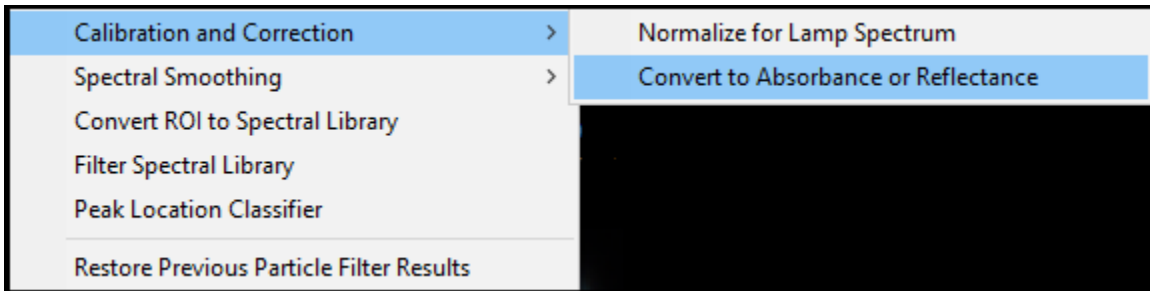
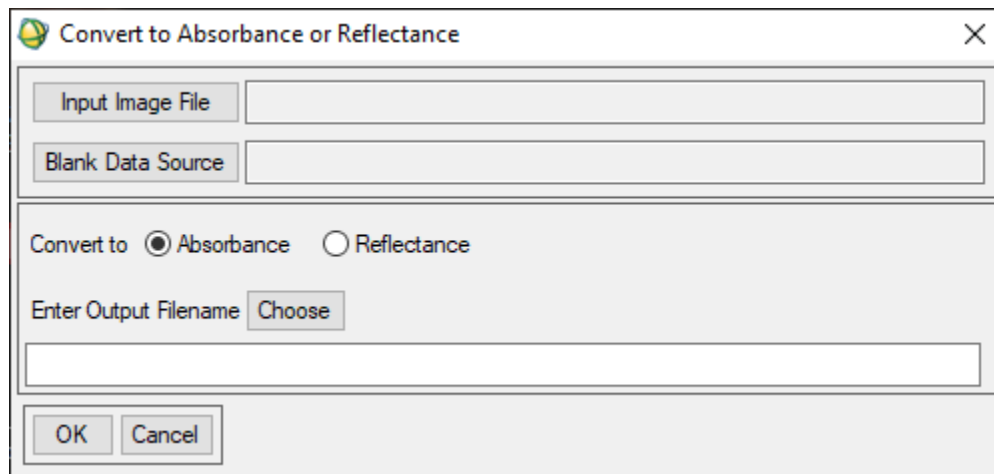

Figure 7.3a. CytoViva Analysis Tab
Figure 7.3b: Convert to Absorbance or Reflectance Dialog
- Then click the Convert to Absorbance or Reflectance (Figure 7.3a) and the Convert to Absorbance or Reflectance box will open (Figure 7.3b).